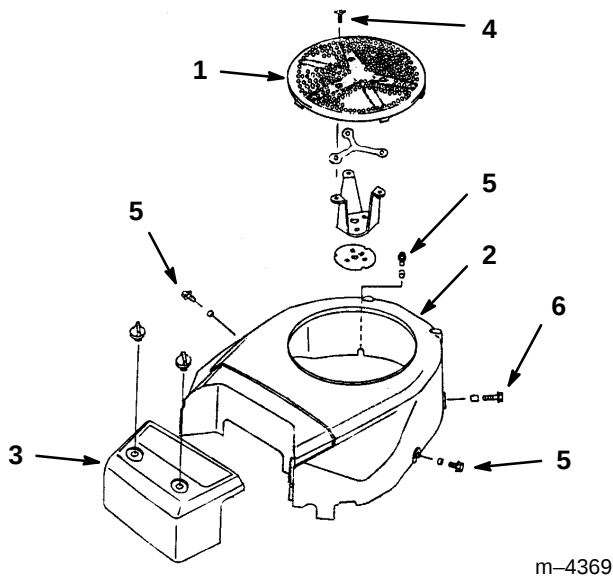

Figure 39
2. Remove air-intake screen, air cleaner cover, fan housing and bolts (Fig. 39).
4. Reinstall air-intake screen, air cleaner cover, fan housing and bolts. Install bolts to 4.3 ft-lb (5.9 N-m) torque (Fig. 39).